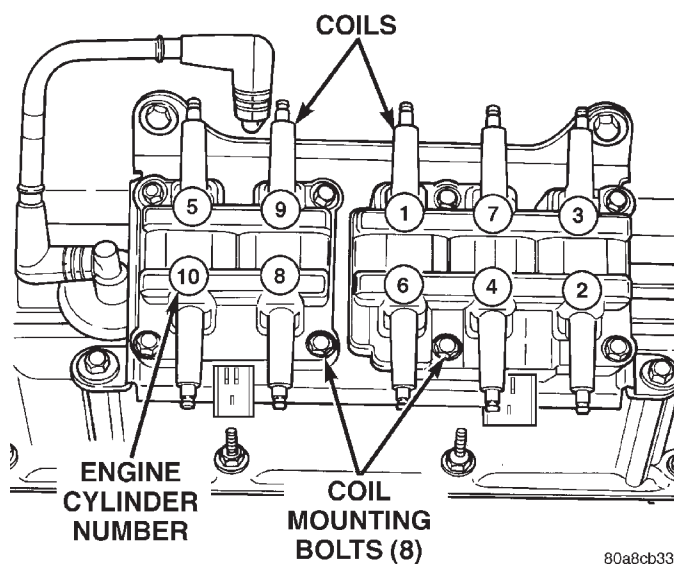

Fig. 43 Ignition Coil Packs—8.0L V-10 Engine
Two separate coil packs containing a total of five independent coils are attached to a common mounting bracket located above the right engine valve cover (Fig. 43). The front and rear coil packs can be serviced separately.
(1) Remove the secondary spark plug cables from the coil packs. Note position of cables before removal.
(2) Disconnect the primary wiring harness connectors at coil packs.
(3) Remove the four (4) coil pack-to-coil mounting bracket bolts for the coil pack being serviced (Fig. 43).
(4) Remove coil(s) from mounting bracket.